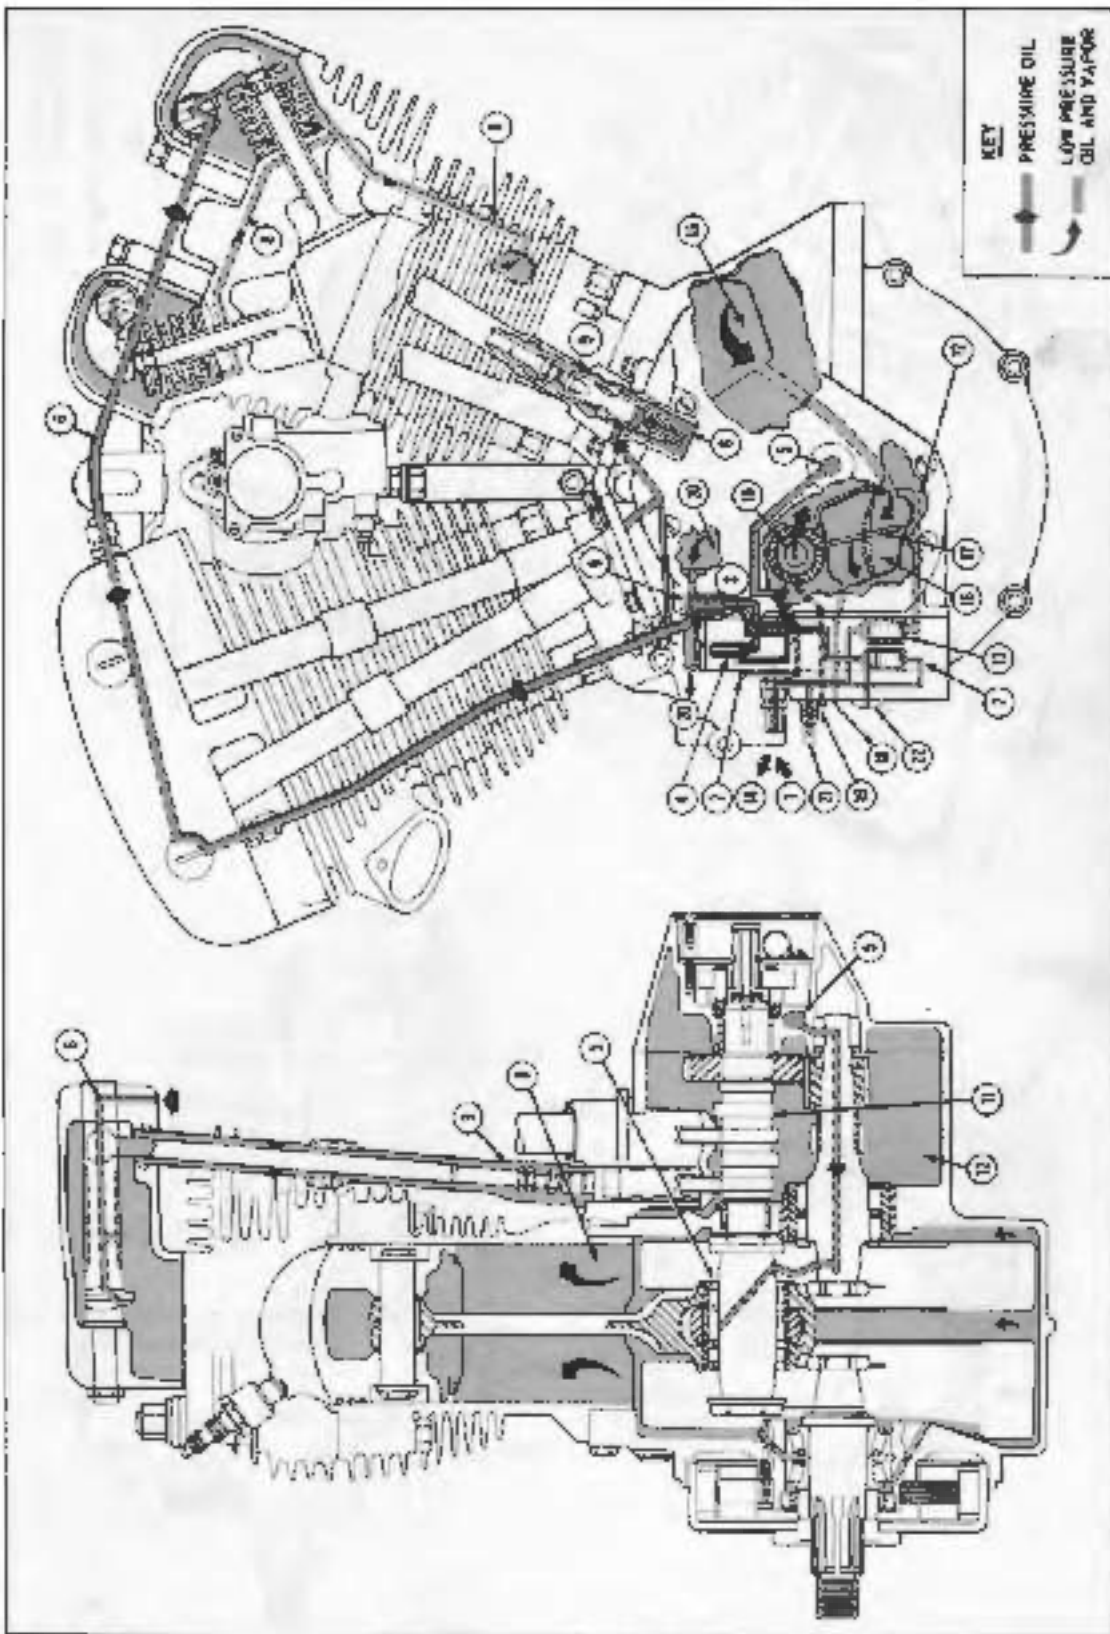

Figure 3-2. FL/FLH/PX Lubrication (1972 and Earlier)
**FL/FLH ENGINE OILING AND BREATHER SYSTEM - 1972 AND EARLIER** (The following steps are called out on Figure 3-2)